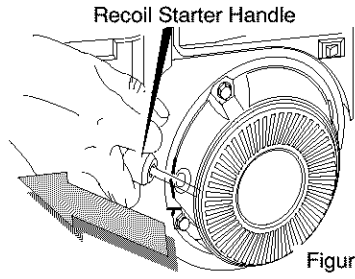

Figure 23
6. **(RECOIL START)** Rapidly pull the **starter handle** (see Figure 23). Do not allow the **recoil starter handle** to snap back, but allow it to rewind slowly while keeping a firm hold on the **starter handle**.